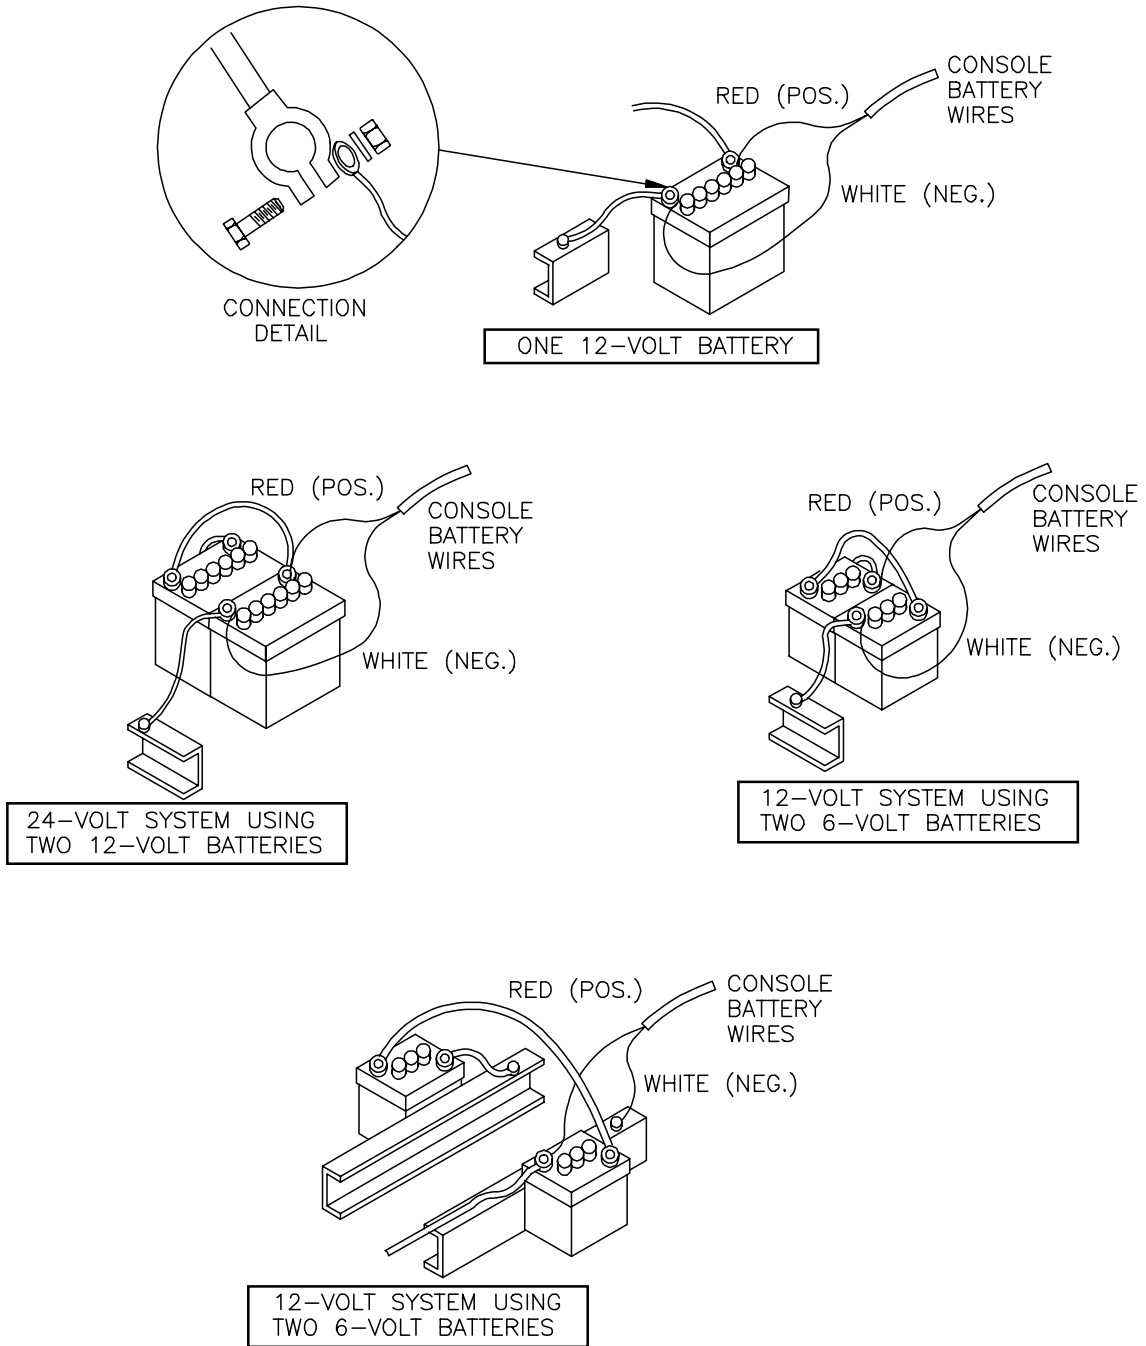

FIGURE 6
- 3) Turn POWER ON/OFF switch OFF and route the Red and White battery wires to a 12-volt battery. Attach the White battery wires to the **NEGATIVE** (-) terminal and the Red battery wire directly to the **POSITIVE** (+) battery terminal. (See Figure 6 on page 8). (**DO NOT CONNECT RED AND WHITE WIRES TO THE STARTER**). Secure the battery wires with plastic cable ties. **DO NOT** tie the battery wires close to the existing battery leads or any other electrical wiring.